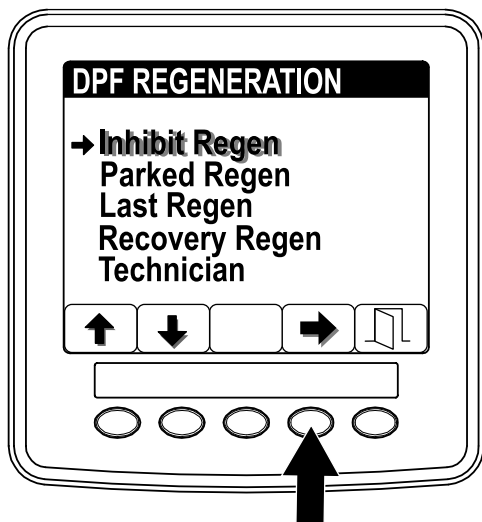

Figure 43
2. Press the button 4 to select the Inhibit Regen entry (Figure 43).
1. Access the DPF Regeneration menu, and press buttons 1 or 2 to scroll down to the INHIBIT REGEN option (Figure 43).